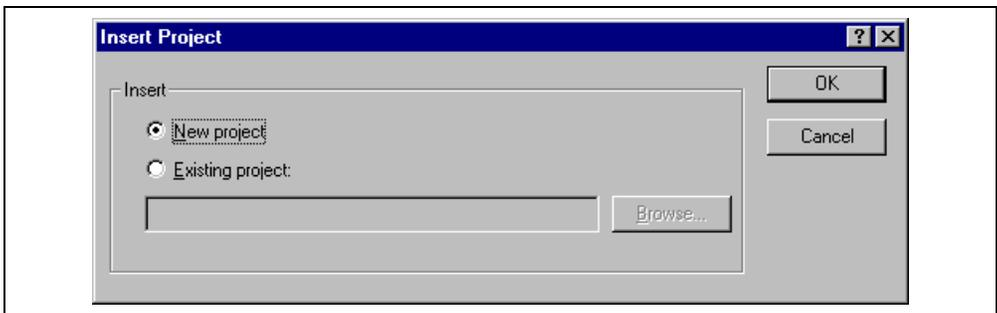

Figure 2.23: Insert Project Dialog
1. Select **[Project->Insert Project...]**. The “Insert Project” dialog will be displayed (figure 2.23).